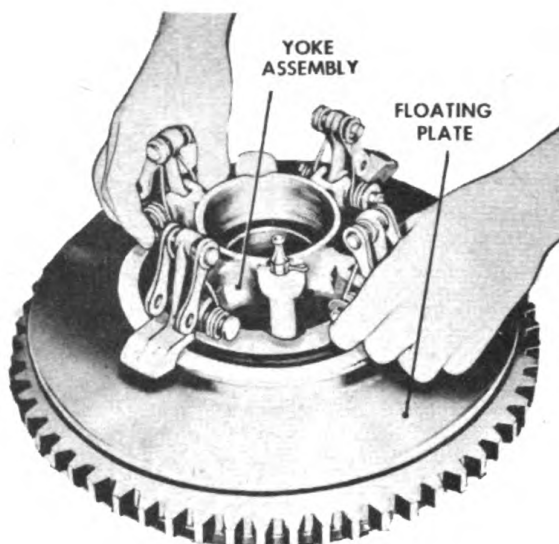

Figure 314. Removing Yoke Assembly.
C. Lift the lock adjusting pin and insert a cotter key into the hole in the pin as shown in Figure 314 and remove the yoke from the hub by screwing it to the right.
D. Remove the pins holding the fingers to the yoke and remove the link levers from the yoke. See Figure 314.